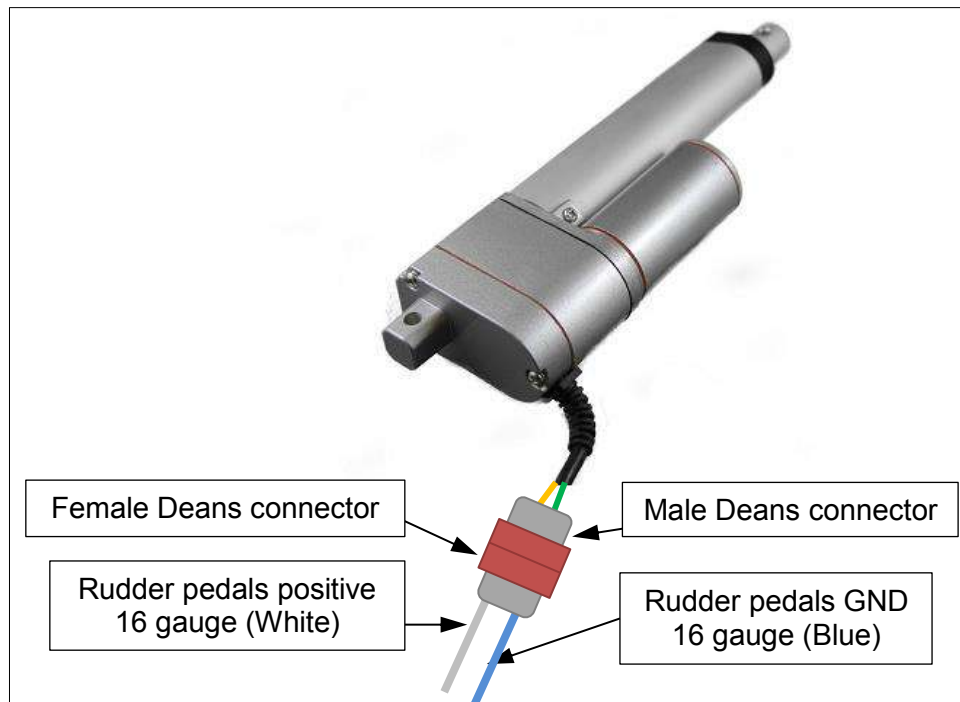

Figure 39-2: Rudder pedal actuator wiring
2. Undo the Deans connector as illustrated in Figure 39-2 and apply direct 12V. Reversing the polarity will activate the actuator in the opposite direction.